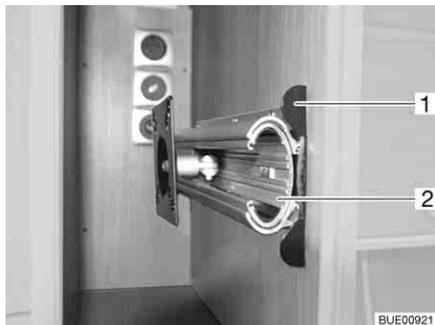

Fig. 105 Holder in the TV cabinet
- Push the unlocking bar (Fig. 105,1) in.
- Pull out the extension (Fig. 105,2) as far as possible.
- Push in the extension (Fig. 105,2) until the unlocking bar (Fig. 105,1) engages.